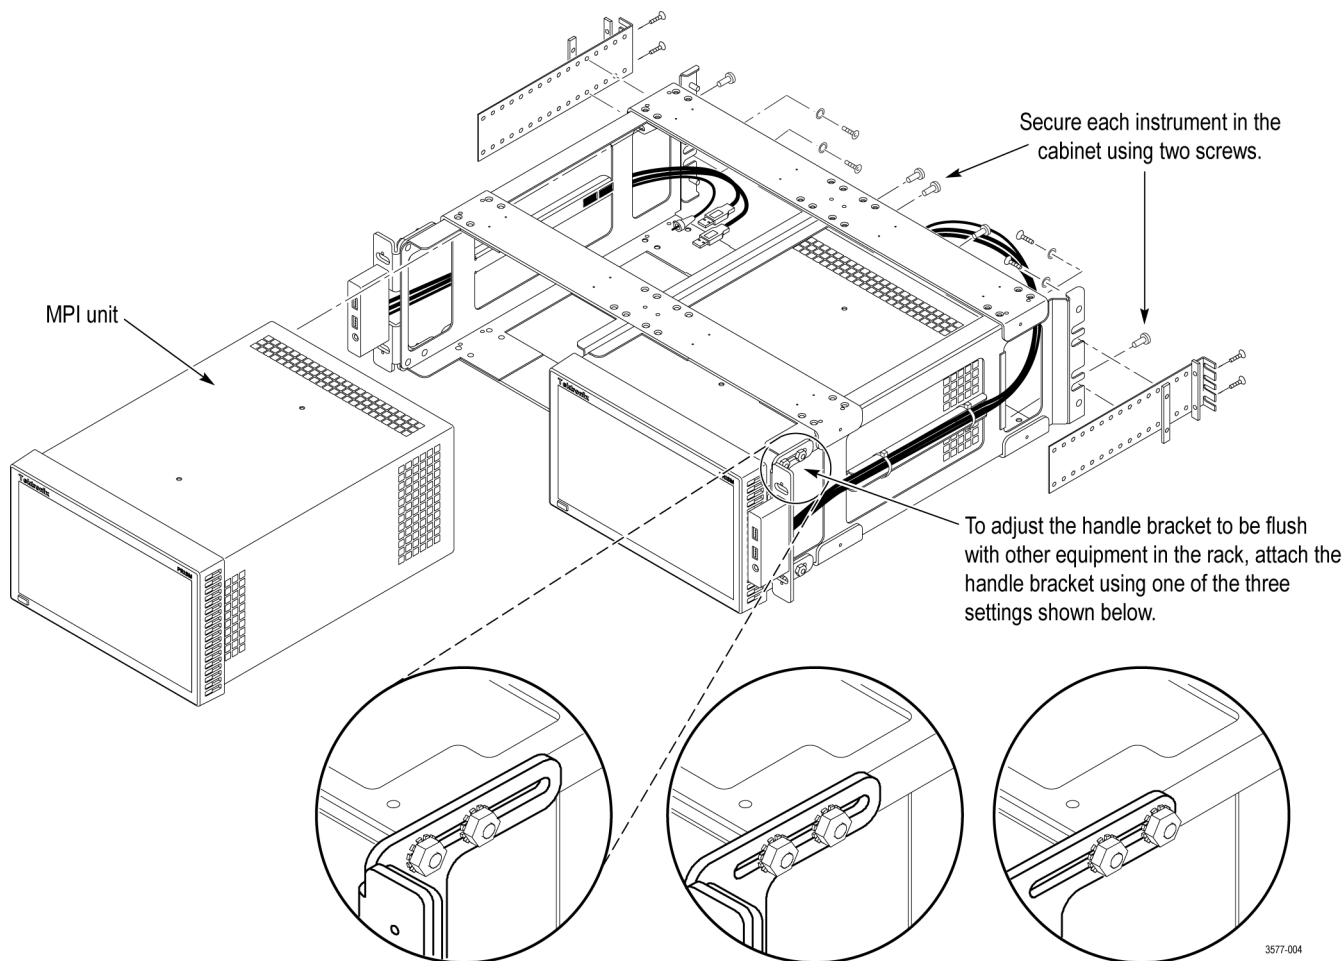
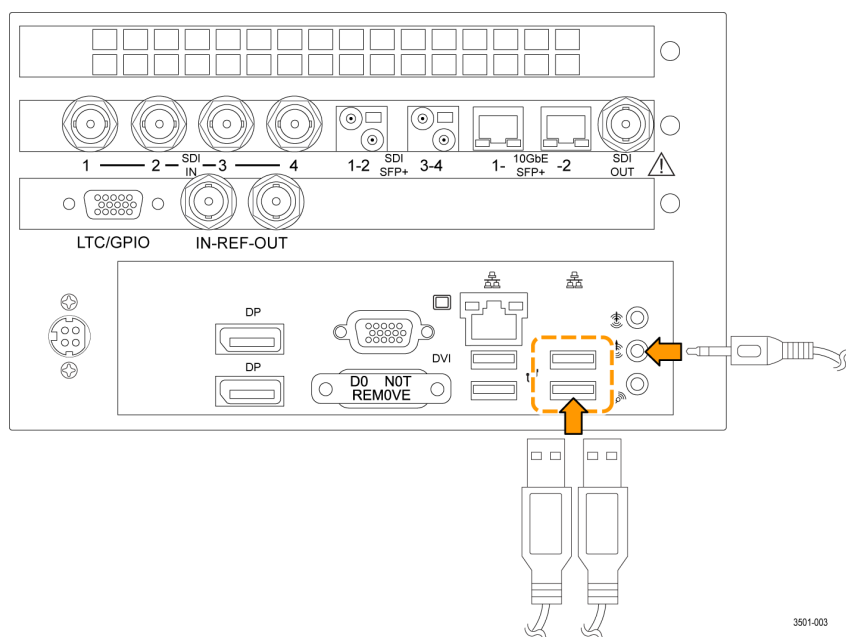

Figure 5: Installing two MPI monitors in the MPI-RACK-MM dual rack cabinet
Figure 6: Connecting the rack cabinet USB and audio cables to the MPI monitor
**NOTE.** If only one instrument is installed in the MPI-RACK-MM dual rack cabinet, a blank panel can be attached to the front of a empty slot on either side of the cabinet. The blank MPI panel (item 10 in Table 4) and four 6-32 X 0.250 screws (item 11 in Table 4) used to attach it to the front frame are supplied in the rack kit.
1. Install an MPI monitor in the dual rack cabinet: (See Figure 3.) (See Figure 4.) (See Figure 5.)
- b. Use a screwdriver with a TORX T-15 tip to secure the instrument in the dual rack cabinet with two 10-32 X 0.625 screws (item 3 in Table 4). The screws attach to the top right and bottom left holes in the instrument chassis as viewed from the rear.
- c. Connect the cables from the USB ports and headphone jack on the dual rack cabinet to the rear of the instrument. (See Figure 6.) You can connect the USB cables to either set of USB ports on the rear panel.